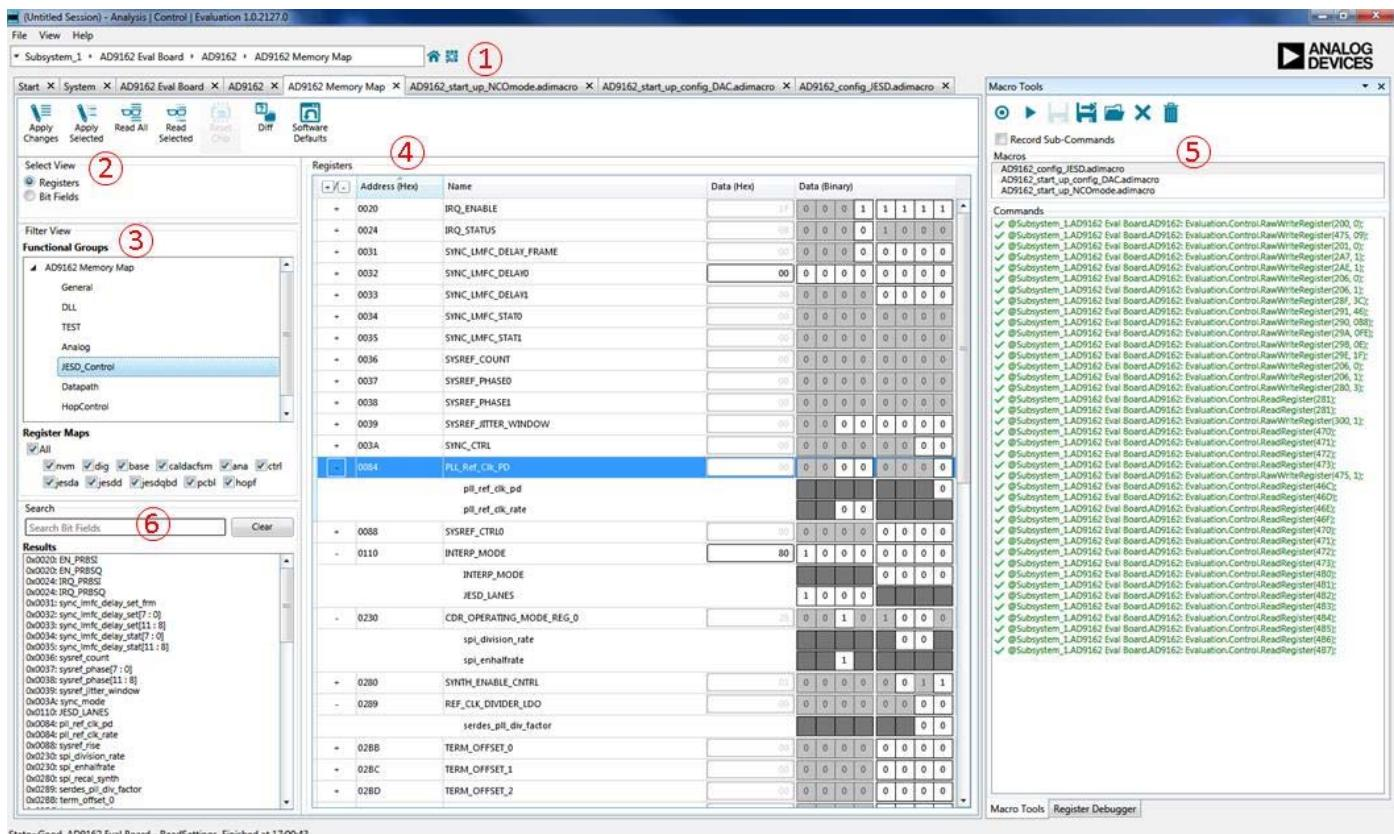

Figure 23. JESD\_Control Functional Group view of AD9162 in ACE
A picture of the ACE software screen is shown in Figure 23. In this view, the tabs for the ADS7+AD9162 eval boards, the AD9162-FMC(B)-EBZ eval board, the AD9162 device, and the AD9162 Memory Map are shown near the red (1) in a circle, along with three tabs for each of the start-up scripts used in this Quick Start guide. The user can click on each tab to navigate to the various windows.
At the red (3) is the Functional Group view. Because the AD9162 has a large register map, the Functional Group view is useful to reduce the number of registers to view at a time. For example, Figure 23 shows the "JESD\_Control" Functional Group, which is useful because the four needed registers to configure the JESD link are all in that group. By selecting this group and expanding the registers, the user can quickly find the registers and update their values. **The "Apply Selected" or "Apply Changes" button, above the red (2), MUST be clicked after a register is changed to commit the change and program it to the device.**